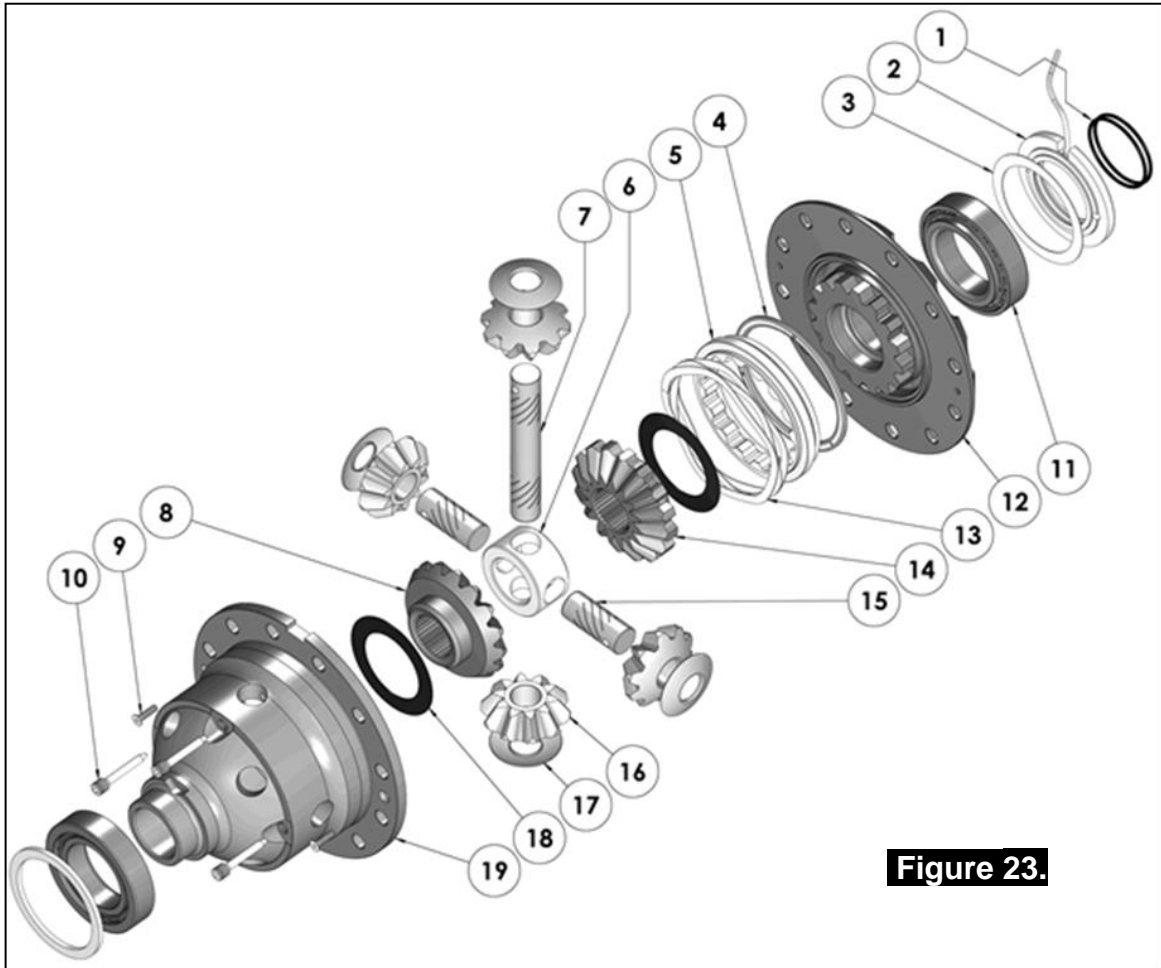

Figure 23.
7.3 Itemized Parts List (See exploded diagram figure 23.)